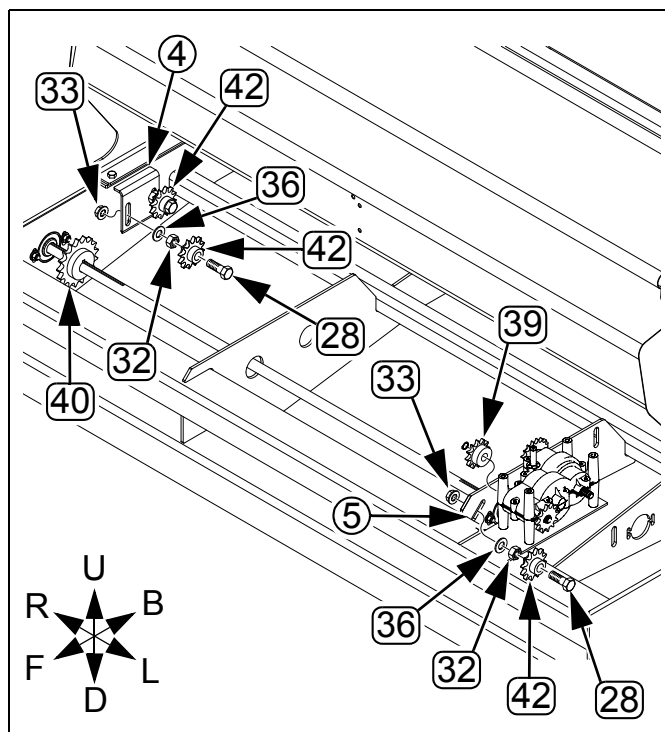

Figure 18
Refer to Figure 18
57. Using the flange lock nut (33), loosely secure the idler assembly at the right-hand side of the angled slot (5) forward of the new shaft input sprocket (38) (not shown in Figure 18).